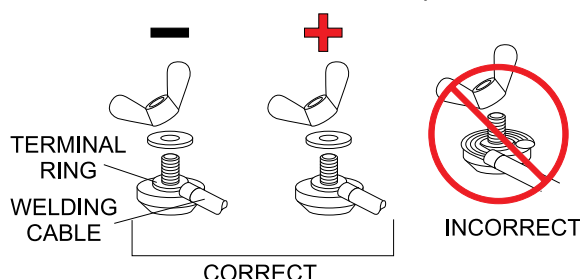

Figure 18. Welder Output Terminals
- ALWAYS** attach terminal ring connectors (Figure 18) to the end of the welding cable that will be connected to the welder output terminals.
- NEVER** connect exposed wires (Figure 18) directly to the welder output terminals. Exposed wiring may cause shocks or di-electric breakdown from poor contact.